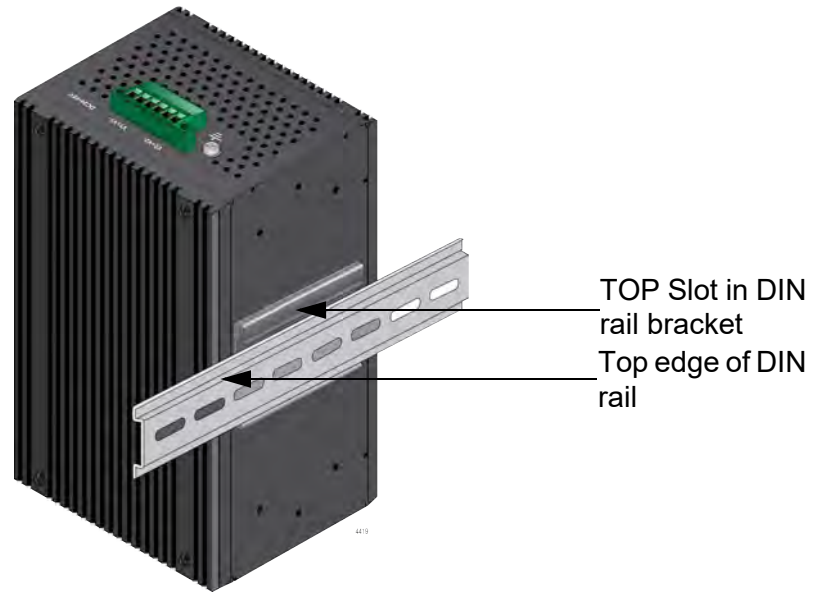

Figure 22. Install Top Slot of DIN Rail Bracket onto DIN Rail
1. Slide the slot on the top of the DIN rail bracket onto the top edge of the DIN rail. Refer to Figure 22 on page 63.